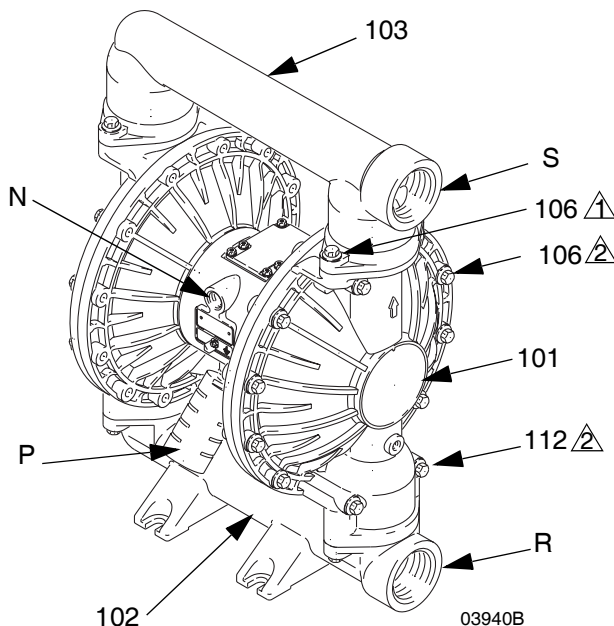

FIG. 3
- The pump is very heavy. If it must be moved, have two people lift the pump by grasping the outlet manifold (103) securely. See FIG. 3 on page 9.
The pump is shipped with the fluid inlet (R) and outlet (S) ports facing the same direction. See FIG. 3. To change the orientation of the inlet and/or outlet port:
2. Remove the screws (106) holding the inlet (102) and/or outlet (103) manifold to the covers (101).